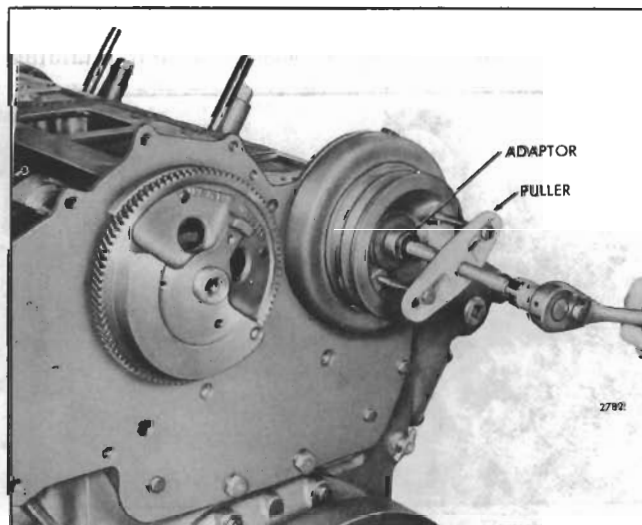

Fig. 3 - Removing Camshaft Pulley
11. Attach puller J 24420 to the camshaft pulley. Use adaptor J 7932 between the end of the camshaft and the pulley screw to protect the end of the camshaft (Fig. 3).